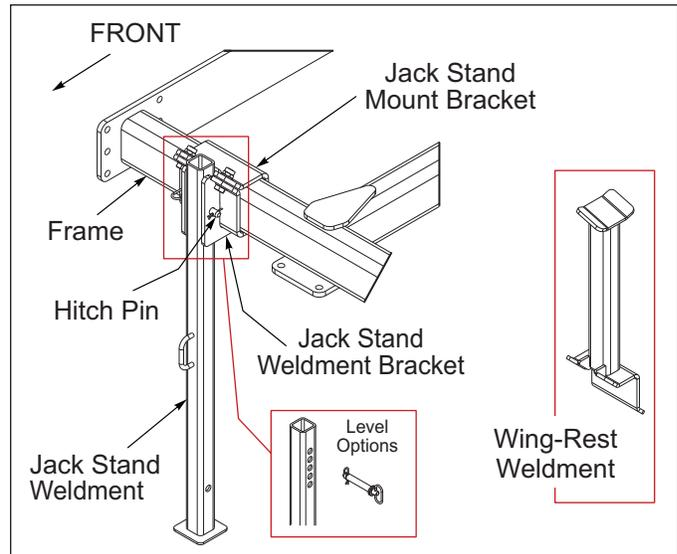

Figure 3-1: Front Jack Stand
2. Insert the Jack Stand Weldment into the Jack Stand Weldment Bracket with the handle facing out and pin at desired level (top five holes), with 3/4 x 4 Hitch Pin and Hair Pin. **See Figure 3-1.**
1. With the Jack Stand Weldment Bracket positioned on the bottom side of the front Frame, (clamp facing out), attach the appropriate Wing-Rest Weldment using 3/4-10 x 2-1/4 Bolts, 3/4 Flat Washer and 3/4-10 Locknut. (The Wing-Rest Weldments have right hand and left hand designations. The left hand Wing-Rest Plate Stops slope down toward the left and the right hand Wing-Rest Plate Stops slope down toward the right. See Parts Manual for Wing-Rest Weldments according to model number.) **See Figure 3-1.**